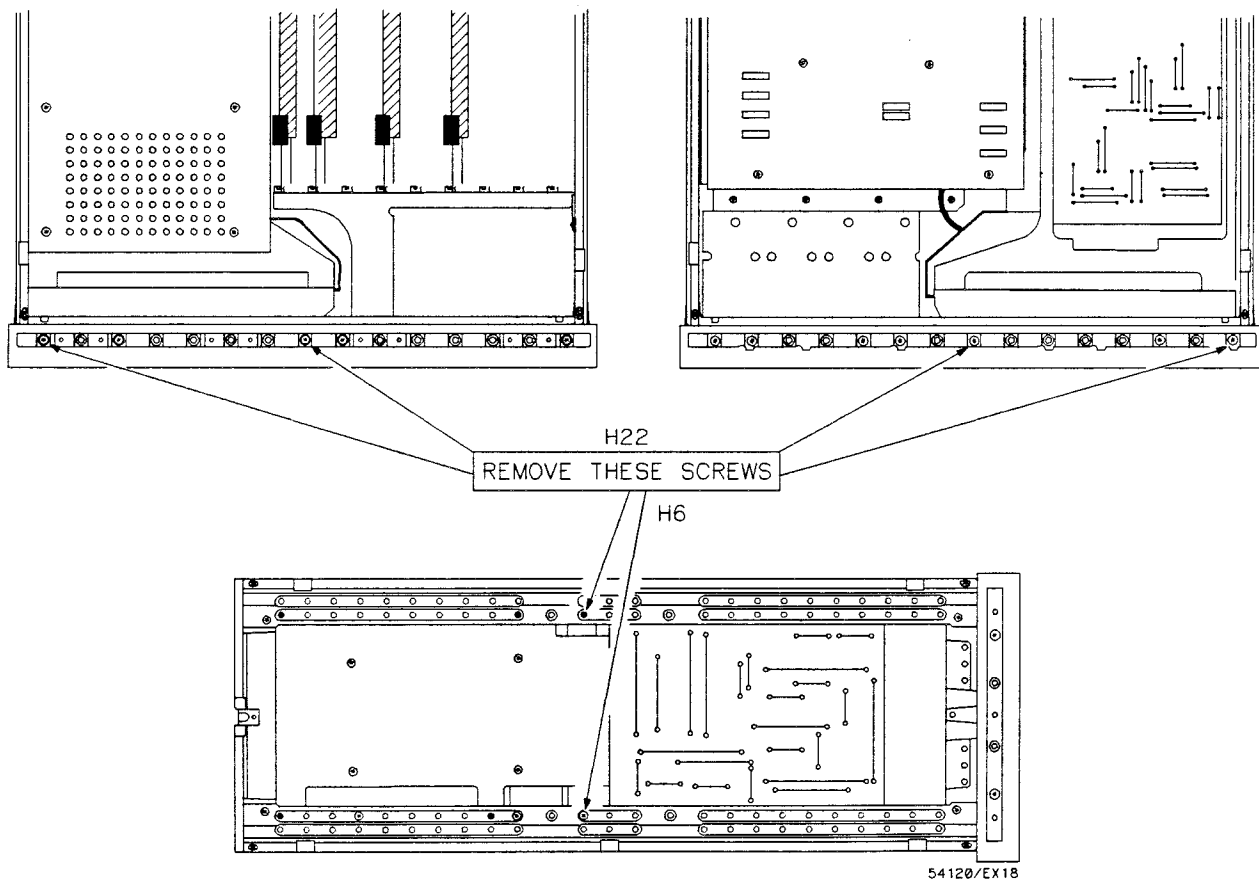

Figure 6A-5. Color CRT Module Mounting Screws
3. Remove four screws that attach the color display module to the front frame. Refer to figure 6A-5.
4. Remove two screws attaching side of module to left side corner struts. Refer to figure 6A-5.